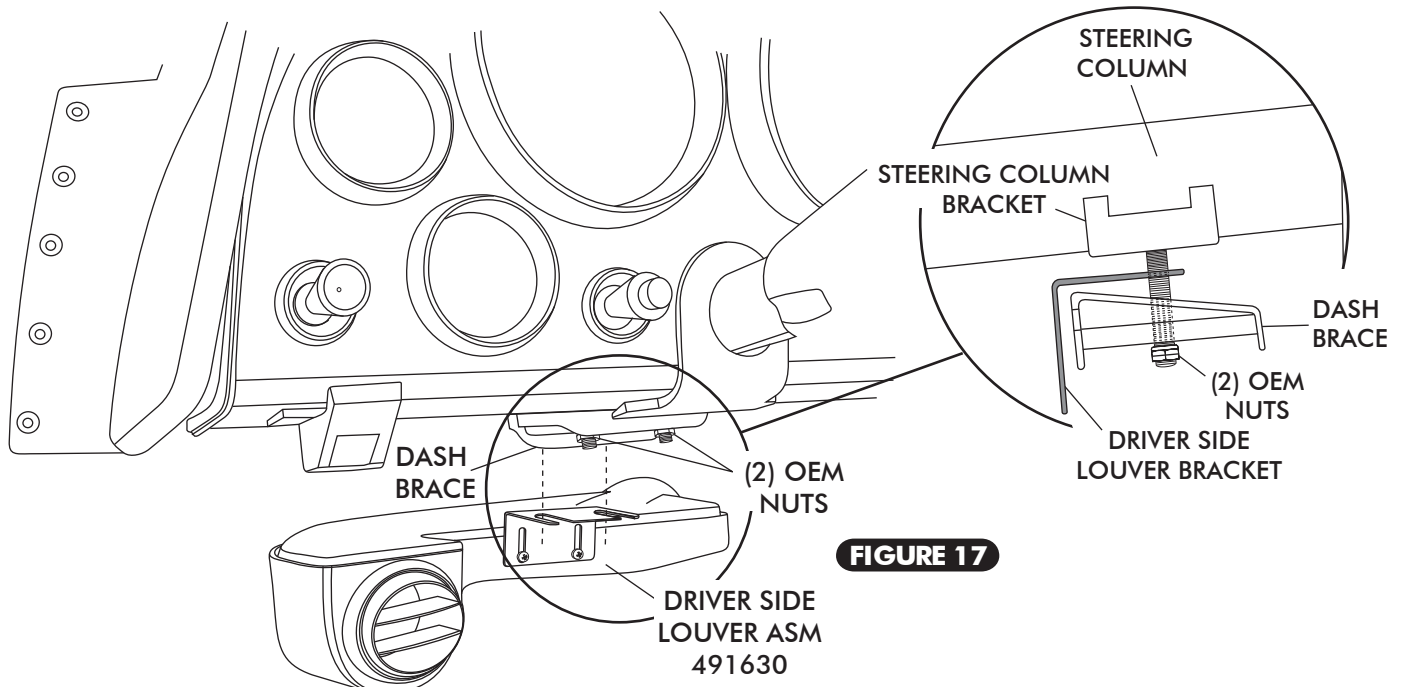

FIGURE 17
- LOOSEN THE (2) OEM NUTS FROM STEERING COLUMN BRACKET. DROP STEERING COLUMN FROM DASH BRACE. SLIDE BRACKET BETWEEN DASH BRACE AND STEERING COLUMN BRACKET.
- ADJUST AND SECURE LOUVER HOUSING TO UNDER DASH STEERING COLUMN BRACKET USING OEM NUTS AS SHOWN IN FIGURE 17 BELOW.